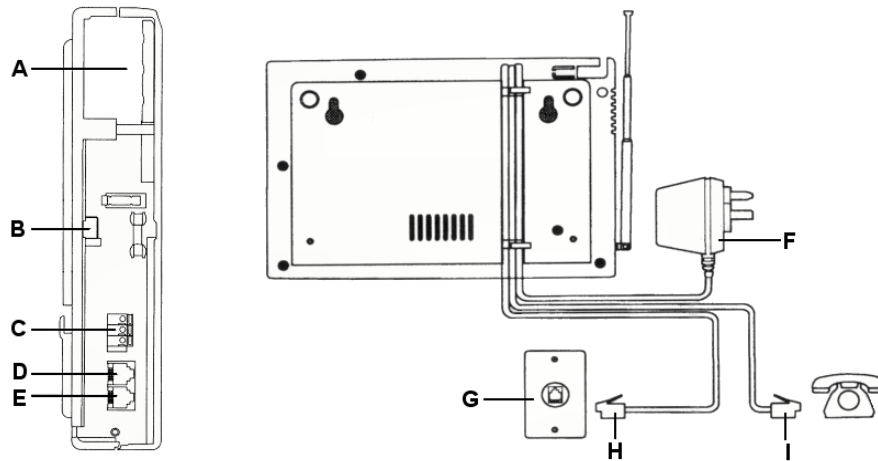

**Figure 8: remote control installation**
1. Remove the rear protector plate of the remote control by loosening the 2 screws with a small screwdriver. See figure 8.
2. Set your home code with the 8-point DIP switch (B). You can select a random setting. Do make sure that all wireless sensors and remote controls have the same code.
3. Insert the enclosed 12V alkaline battery (A) in the battery compartment. See figure 8.